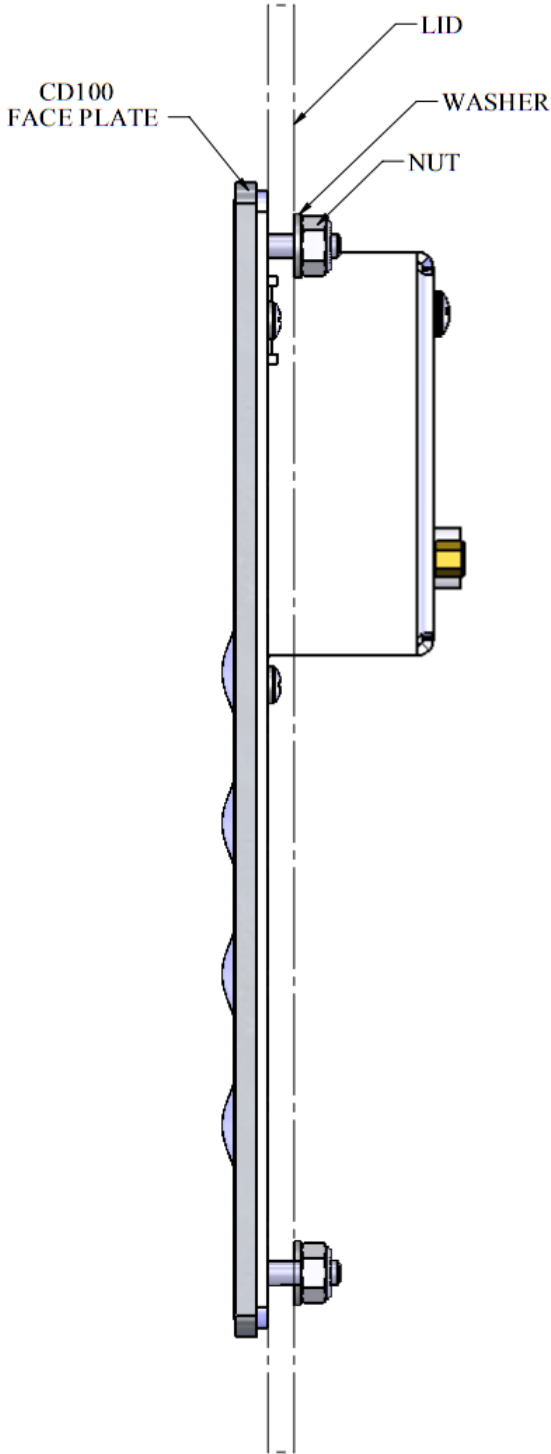

FIGURE 6-3. Profile of installed CD100
4. Mount the CD100 as shown in FIGURE 6-3, *Profile of installed CD100*.